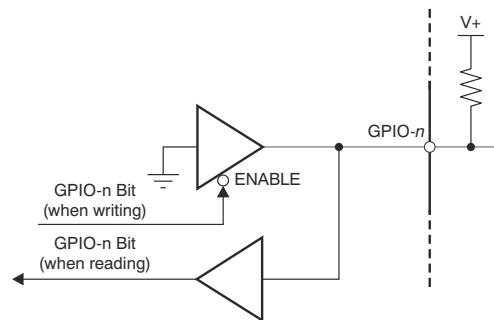

图 7-17. GPIO Pins
The device has eight GPIO pins. The GPIO-0, GPIO-1, GPIO-2 and GPIO-3 pins are dedicated to general, bidirectional, digital I/O signals. GPIO-4, GPIO-5, GPIO-6, and GPIO-7 are dual-function pins and can be programmed as either bidirectional digital I/O pins or remote temperature sensors D1 and D2. When D1 or D2 is disabled, the pins function as GPIOs. These pins can receive an input or produce an output. When the GPIO-*n* pin functions as an output, the pin has an open-drain and the status is determined by the corresponding GPIO-*n* bit of the GPIO register. The output state is high impedance when the GPIO-*n* bit is set to 1, and is logic low when the GPIO-*n* bit is cleared (0). A 10-k $\Omega$  pullup resistor is required when using the GPIO-*n* pin as an output; see Figure 7-17. Do not tie the dual-function pins GPIO-4, GPIO-5, GPIO-6, and GPIO-7 to a pullup voltage that exceeds the AVDD supply. The dedicated GPIO-0, GPIO-1, GPIO-2, and GPIO-3 pins are only restricted by the absolute maximum voltage. To use the GPIO-*n* pin as an input, the corresponding GPIO-*n* bits in the GPIO register must be set to 1. When the GPIO-*n* pin functions as an input, the digital value on the pin is acquired by reading the corresponding GPIO-*n* bit. After a power-on reset or any forced hardware or software reset, all GPIO-*n* bits are set to 1, and the GPIO-*n* pin goes to a high-impedance state.